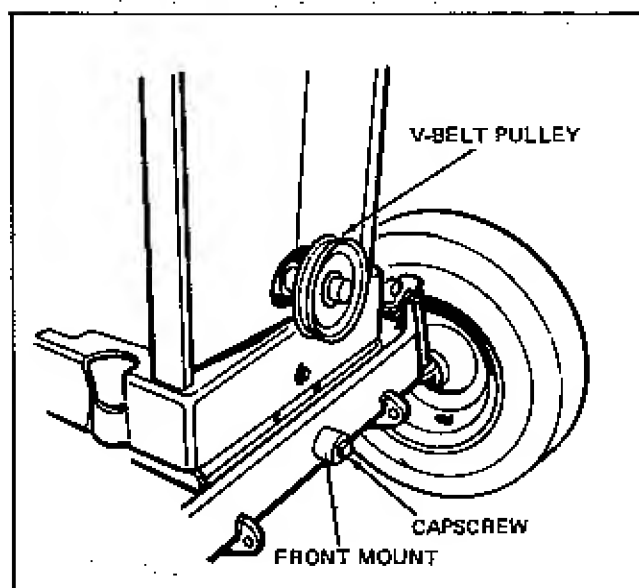

Figure 4.
4. Remove front axle bolt and replace with 1/2 x 4-1/4" capcrew using the No. 125110 front mount in place of the flat washer. See Figure 4.
8. Install V-Belt pulley on crankshaft of engine using the No. 125088 key provided. See Figure 4.